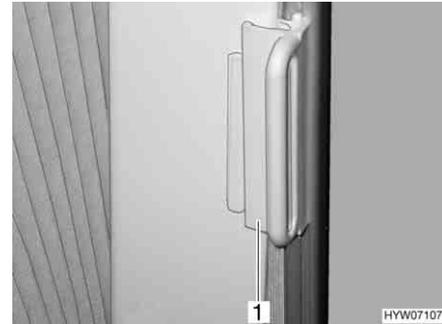

Fig. 39 Lock for Roman shade
- Push the handle (Fig. 39,1) onto the cap. The Roman shade is secured.